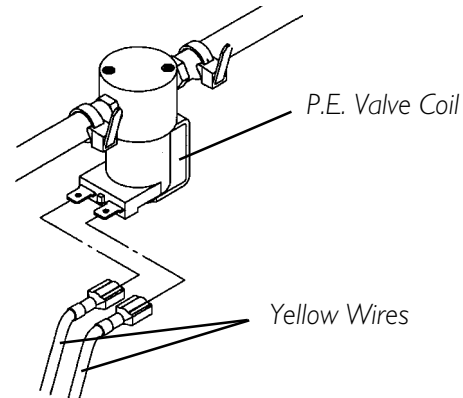

FIGURE 4 - P.E. VALVE COIL TEST
P.E. VALVE COIL TEST (FIGURE 4)